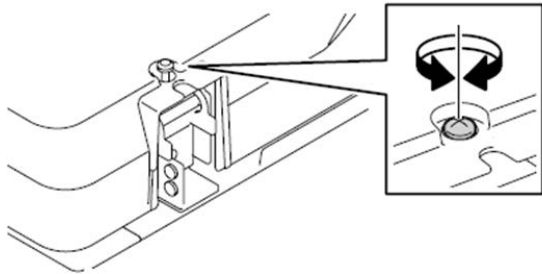

Fig. 2
- B. Adjustment of the front side gap (The height adjusting screw on the feed side hinge: Fig. 2)